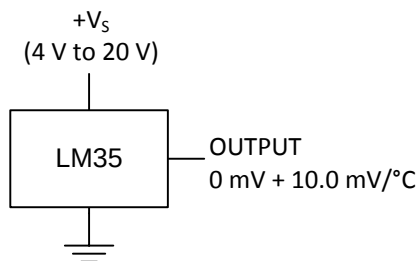

Figure 14. Basic Centigrade Temperature Sensor (2 °C to 150 °C)
Unless otherwise noted, these specifications apply: $-55^{\circ}\text{C} \leq T_J \leq 150^{\circ}\text{C}$ for the LM35 and LM35A; $-40^{\circ}\text{C} \leq T_J \leq 110^{\circ}\text{C}$ for the LM35C and LM35CA; and $0^{\circ}\text{C} \leq T_J \leq 100^{\circ}\text{C}$ for the LM35D. $V_S = 5\text{ Vdc}$ and $I_{\text{LOAD}} = 50\text{ }\mu\text{A}$, in the circuit of Full-Range Centigrade Temperature Sensor. These specifications also apply from 2°C to T_{MAX} in the circuit of Figure 14.
Temperature Sensor: These specifications also apply from T_{MIN} to T_{MAX} in the circuit of Figure 14.
(6) Quiescent current is defined in the circuit of Figure 14.